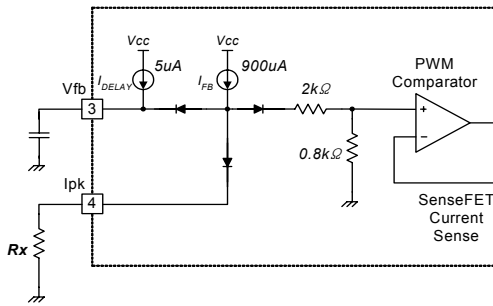

Figure 12. Peak Current Limit Adjustment
8. Adjusting Peak Current Limit : As shown in Figure 12, a combined $2.8k\Omega$ internal resistance is connected to the non-inverting lead on the PWM comparator. A external resistance of R_x on the current limit pin forms a parallel resistance with the $2.8k\Omega$ when the internal diodes are biased by the main current source of $900\mu A$.